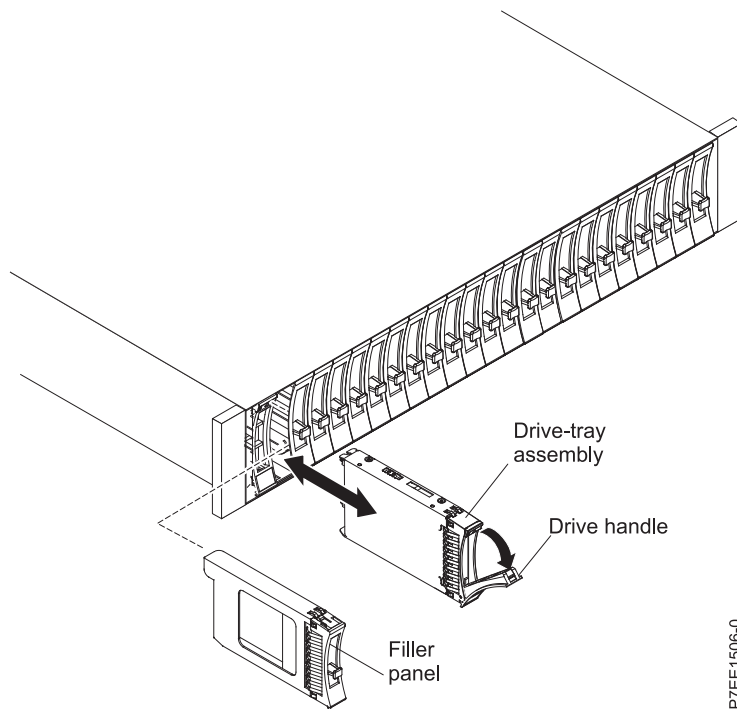

Figure 36. Removing a drive from the 5887 disk drive enclosure
5. Grasp the front of the drive and pull it out from the slot, ensuring that you support the bottom of the drive, as shown in Figure 36 on page 37.